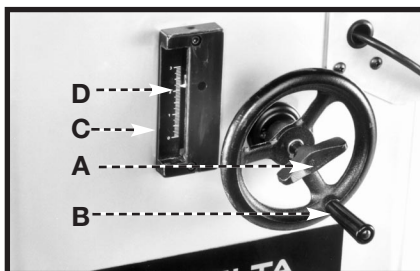

Fig. 18
The spindle can be raised or lowered by loosening the lock knob (A) Fig. 18 and turning the handwheel (B). To raise the spindle height, turn the handwheel (B) clockwise. To lower the spindle height, turn the handle (B) counterclockwise.
The scale (C) Fig. 18 indicates the spindle travel range from 0" to 3" and is marked in 1/16" increments. Minor cutter height adjustments can be measured using the pointer (D) along the scale (C).
**⚠ CAUTION** Tighten the lock knob (A) after adjusting the spindle height.